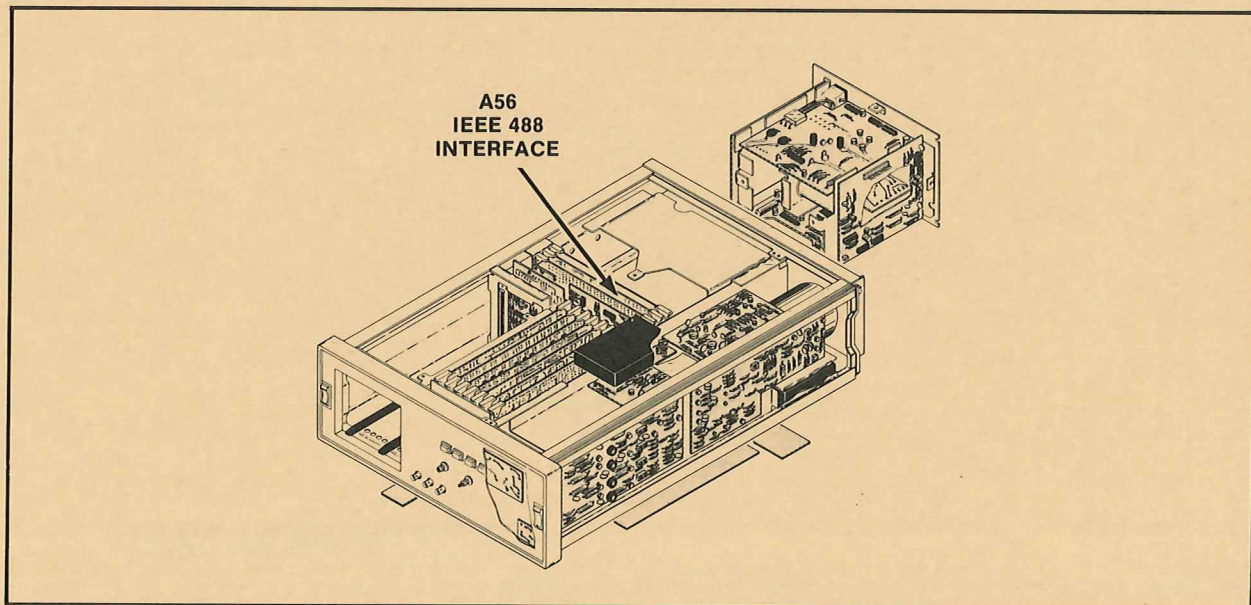

Fig. 1. Location of the IEEE 488 Interface Card. It contains the DIP switches to set the primary and secondary addresses for the 7912AD.
ton while the 7912AD is in TV mode (the TV SCALE FACTORS switch must be ON); the primary (PA) and secondary (SA) addresses are displayed on the TV monitor. The other way to determine the address settings is to remove the top cover and look at the address DIP switches, located on the IEEE 488 Interface card. Figure 1 shows the location of the IEEE 488 Interface card. Figure 2 shows the locations of the DIP switches on the card. (Again, there are hazardous voltages present inside the 7912AD; this operation should be performed only by qualified personnel.)